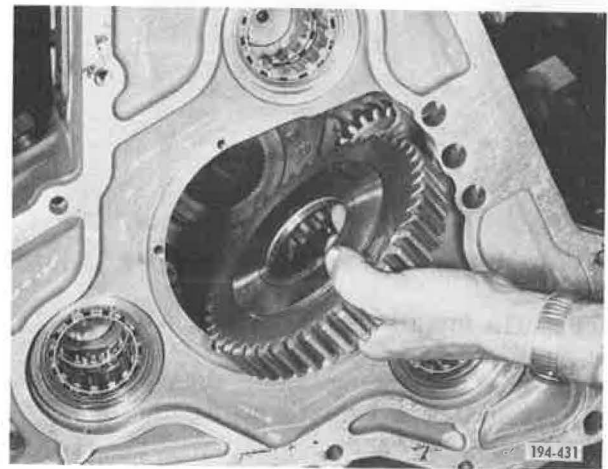

Figure 5-927. Installing Gear
15. Install Hi-range gear, and temporarily position it between countershaft direct gear and Hi-range gear. See Figure 5-927.